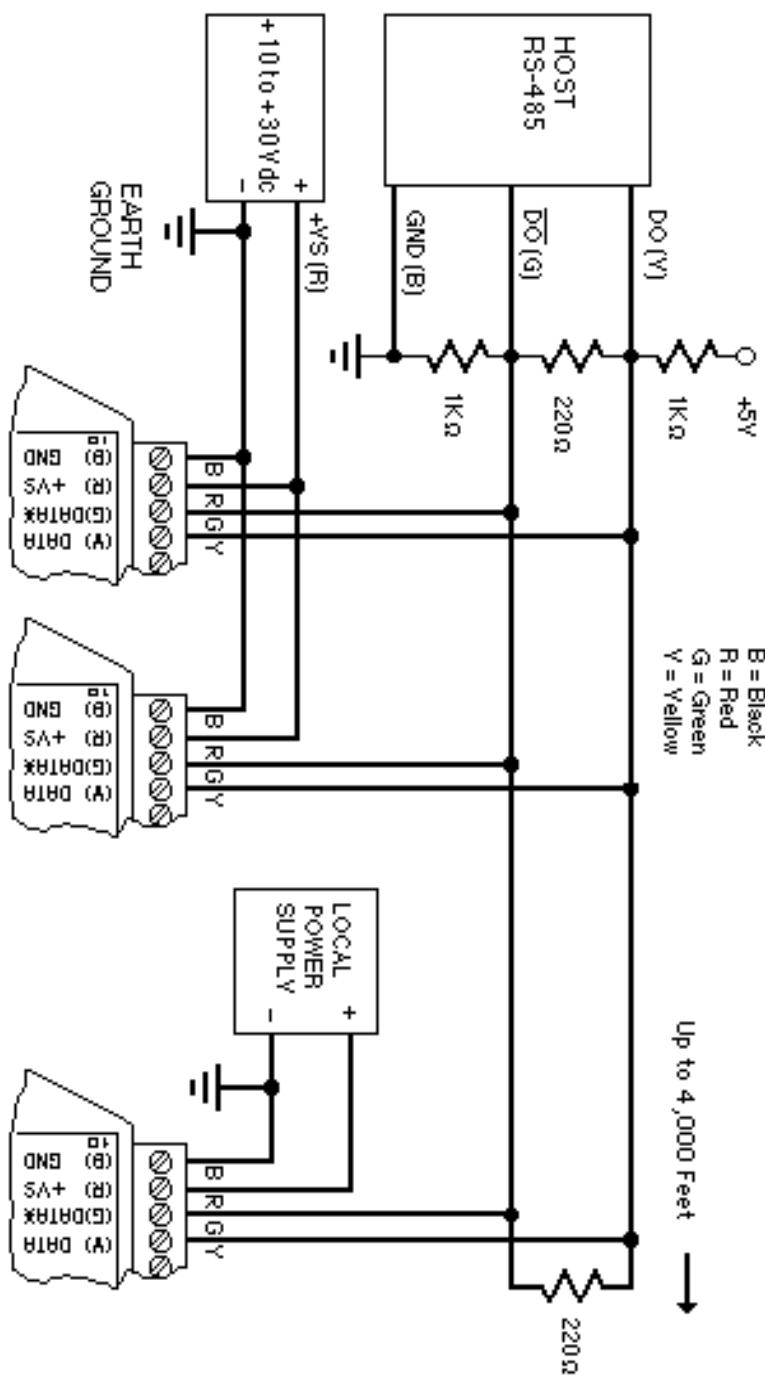

Figure 3.2 RS485 Network.
Figure 3.2 illustrates the wiring required for multiple-module RS-485 system. Notice that every module has a direct connection to the host system. Any number of modules may be unplugged without affecting the remaining modules. Each module must be setup with a unique address and the addresses can be in any order. All RS-485 modules must be setup for no echo to avoid bus conflicts (see Setup). Also note that the connector pins on each module are labelled with notations (B), (R), (G), and (Y). This designates the colors used on standard 4-wire telephone cable:
During normal operation, there are periods of time where all RS-485 drivers are off and the communications lines are in an 'idle' high impedance condition. During this condition, the lines are susceptible to noise pickup which may be interpreted as random characters on the communications line. To prevent noise pickup, all RS-485 systems should incorporate 1K ohm bias resistors as shown in Figure 3.2. The resistors will maintain the data lines in a 'mark' condition when all drivers are off.